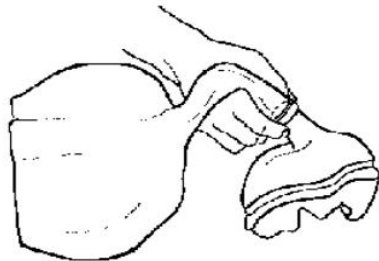

Fig. 2
2. Attach airway bag to mouthpiece. (Fig. 2)